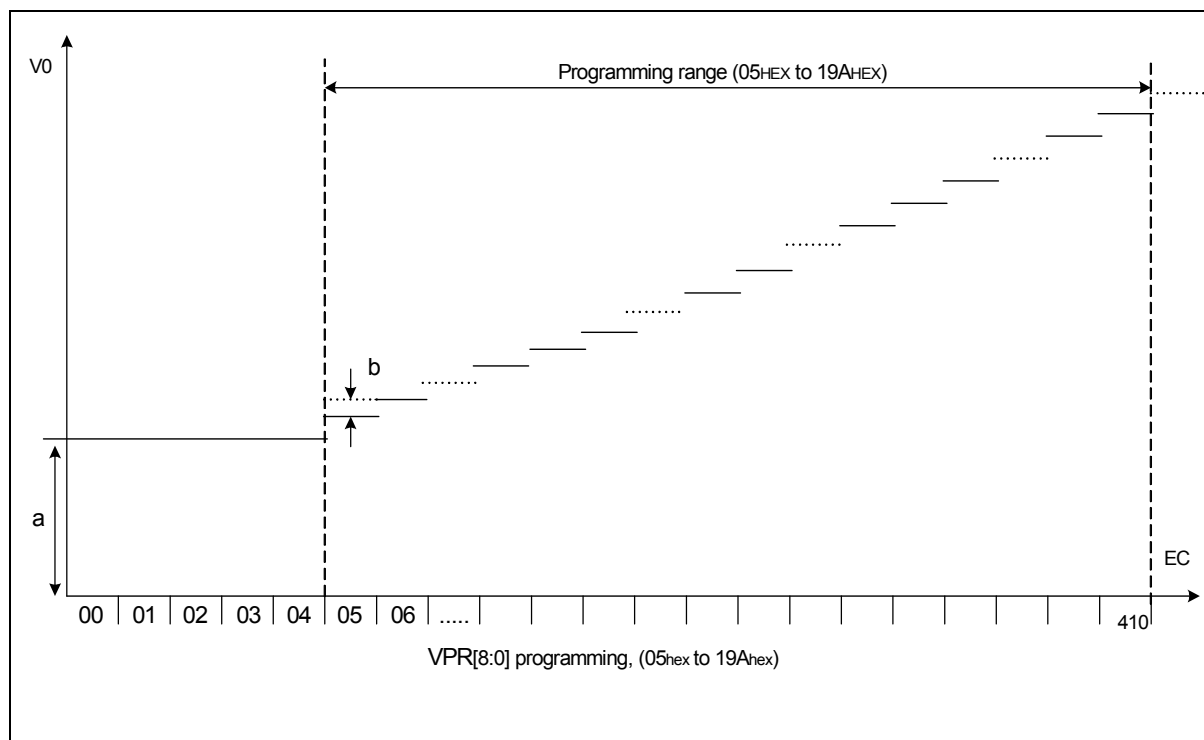

Fig. 8.10.2  $V_0$  programming range
The VPR[8:0] value must be in the  $V_0$  programming range as given in Fig.8.10.2. Evaluating equation (1), values outside the programming range indicated in Fig.8.10.2 may result.